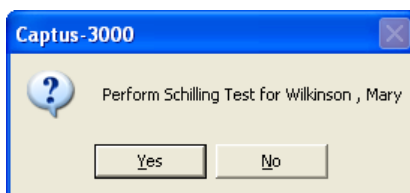

Figure 10-13
3. Click the **Start Procedure** button or press *Alt+S* to begin the test. Figure 10-13 will appear confirming the selected patient. To cancel the test or if the incorrect patient was selected, click the **No** button to return to Figure 10-5, otherwise click **Yes** to continue.